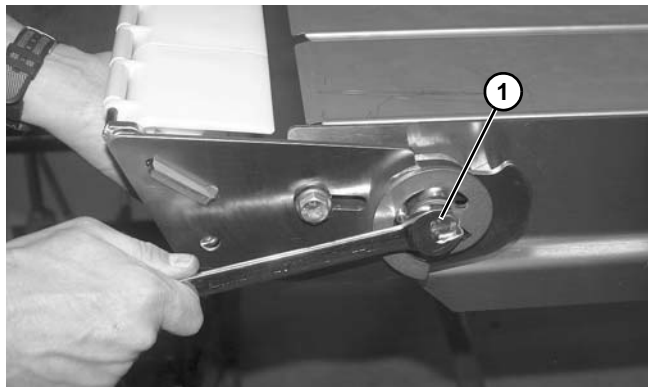

Figure 148
- If needed, tighten or loosen screw (**Figure 148, item 1**) on each side to move idler tail up or down to level with conveyor bed rail.